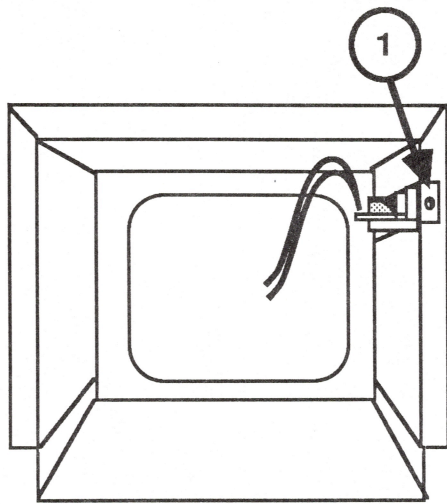

FIGURE 37
1. Replace the screw which holds the on/off switch bracket to the rear cover (Figure 37, #1).